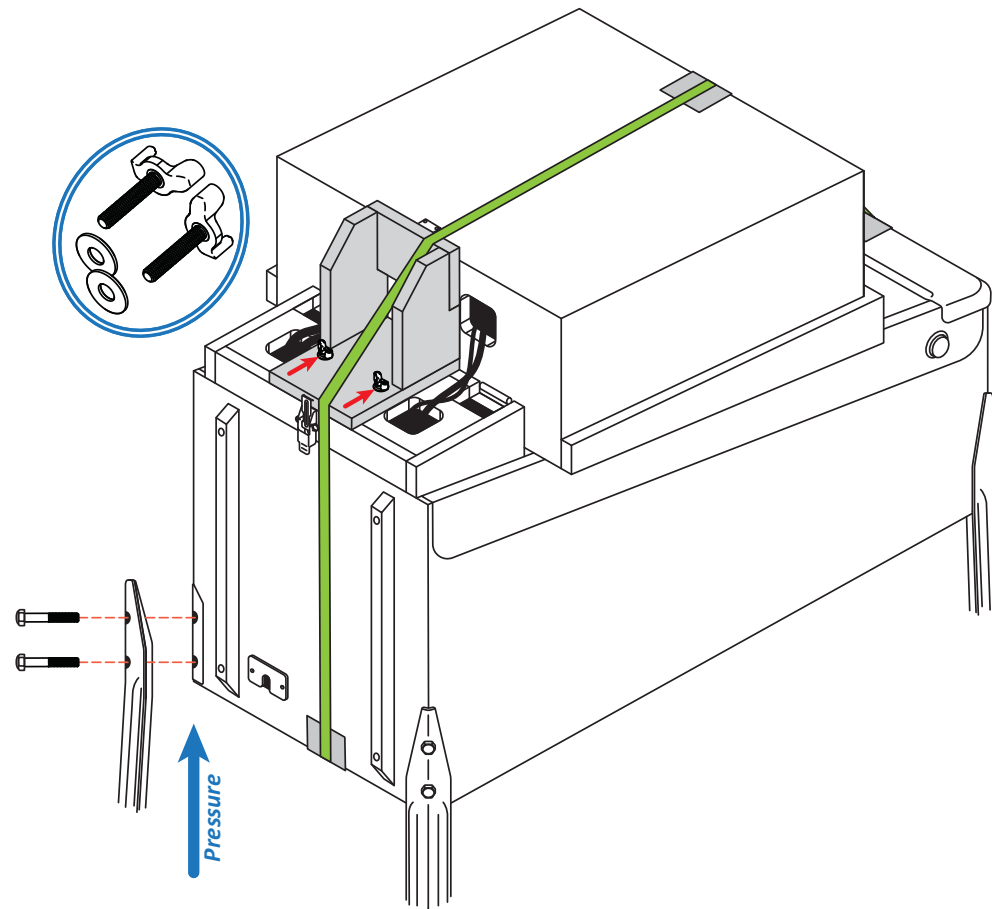

Figure 1-6. Installing the rear legs.
6) With the help of at least one other person, carefully tip the game onto its front legs. Lift the rear of the cabinet and have **two people** hold it or place it on a sturdy support. As with the front legs, attach the two rear legs, using the four remaining acorn-head bolts. Tighten all bolts firmly (again, alternating between the two bolts at each corner), while maintaining upward pressure on the legs (see figure 1-6). Carefully lower the game onto its four legs. Using wire cutters or scissors, cut the nylon strap holding the backbox down (**CAUTION: PROTECT YOUR EYES** and have helpers/bystanders move away! The sharp ends of the cut strap may whip violently away from the game!). Unscrew and remove the two wing bolts & washers (red arrows, below) holding the backbox support shipping cleat to the back of the game. Save the wing bolts & washers for later use (inset close-up, below).